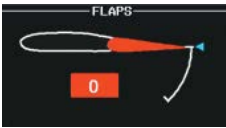

Figure 3-26 Flaps Retracted at Takeoff
- Flaps not in position for takeoff – Flap pointer and readout turn red with white text (Figures 3-26 and 3-27).